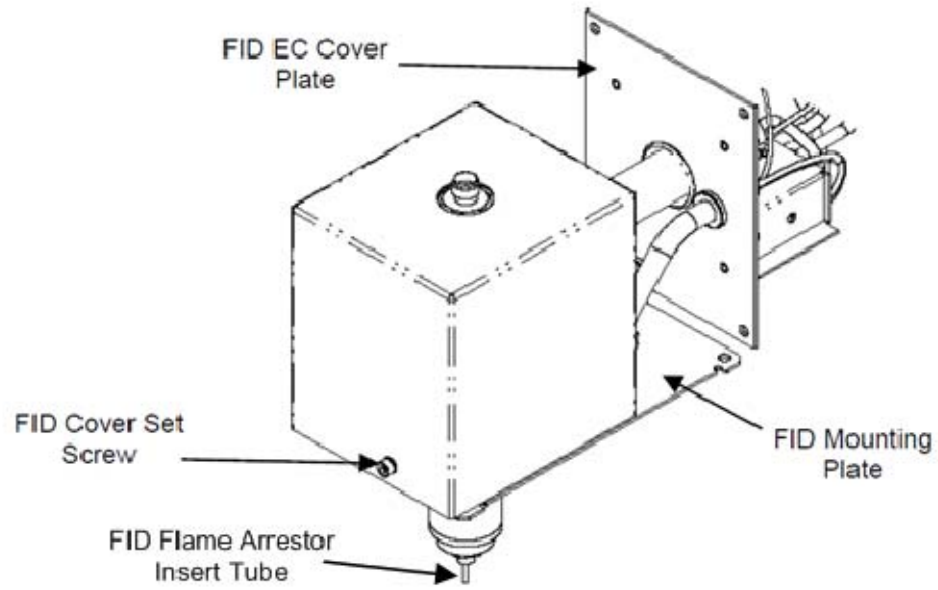

Figure 1
7. Disconnect tubing from the FID flame arrestor insert tube in the oven. Refer to Figure 1.
10. Using a 3.0mm Allen wrench, remove the FID cover set screw from the front of the FID Assembly. Remove the cover and insulation from the FID block. Refer to Figure 1.